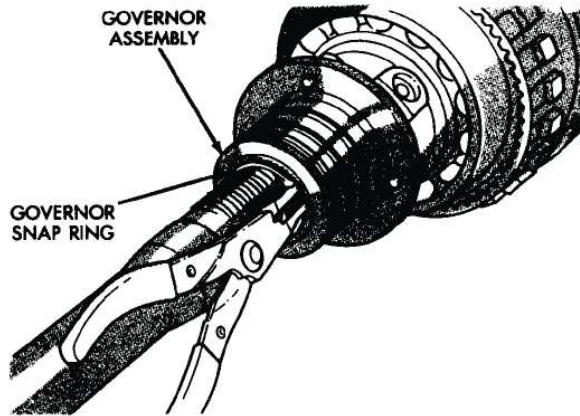

Fig. 68 Governor Snap Ring Installation
(8) Install governor assembly snap ring (Fig. 68).
(9) Tighten governor body attaching bolts to 11 N·m (8 ft. lbs.) torque.
(10) Install output shaft rear bearing in case and install bearing snap ring. Be sure snap ring is fully seated.